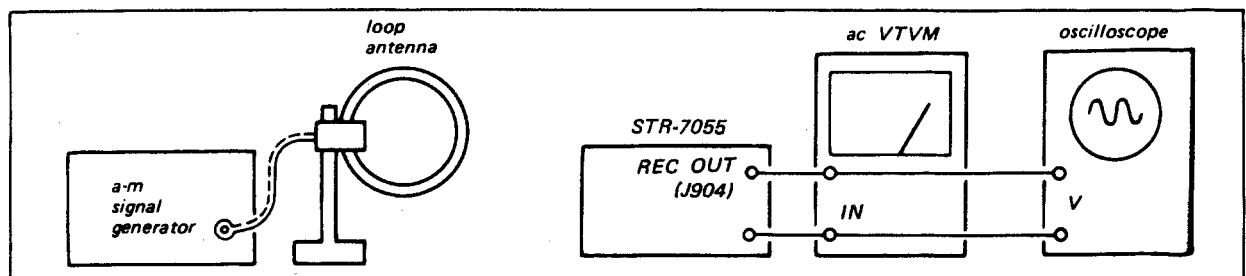

Fig. 3-7. A-m frequency coverage and tracking alignment test setup
1. Connect the test equipment as shown in Fig. 3-7.
With the test equipment connected as shown in Fig. 3-7, follow the procedures given in Table 3-4 when performing this alignment with an a-m signal generator.